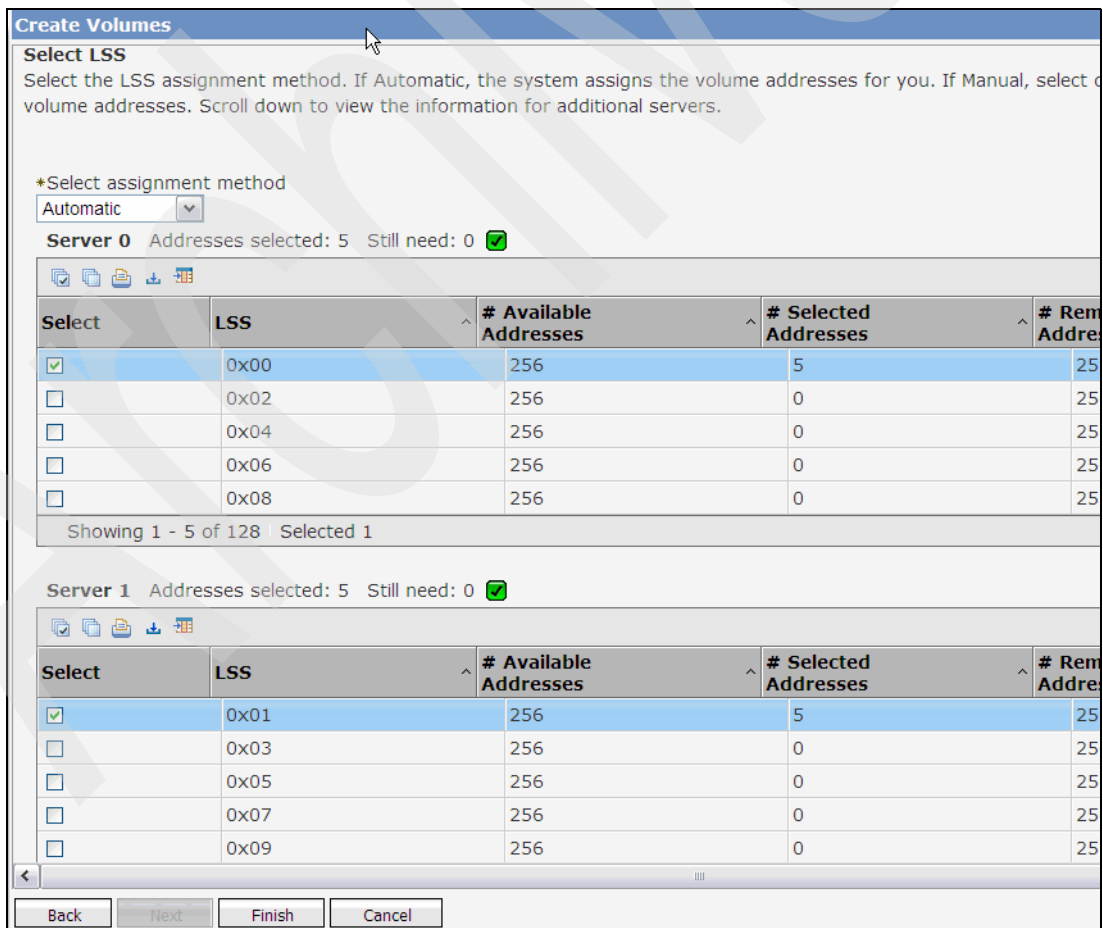

Figure 13-59 Select LSS
7. We need to select LSS for all created volumes. In our example, we select the **Automatic** assignment method, where the system assigns five volumes addresses to LSS 00 and five volumes addresses to LSS 01 (see Figure 13-59).